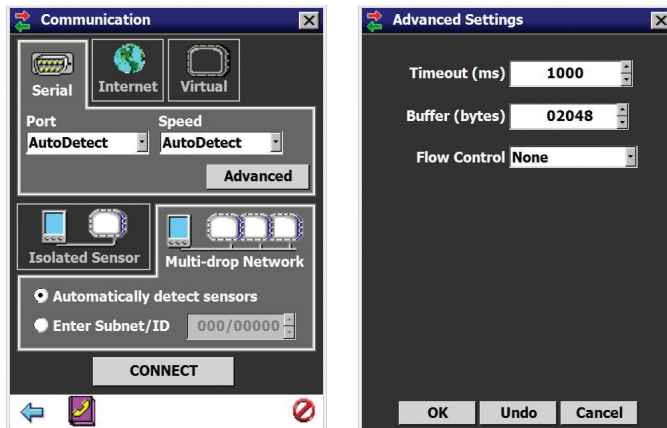

Figure 4.2 - Serial Connection (left) and Advanced Settings (right)
- 1 Click on **Communication** to access the Communication window (see Figure 4.2).